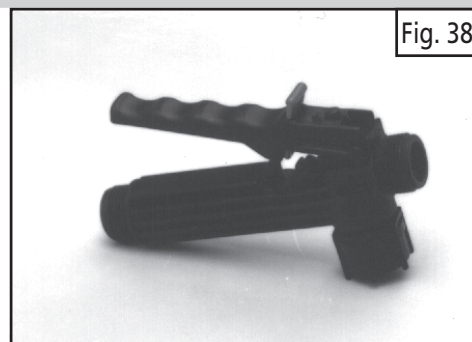

Fig. 38
1) Complete shut-off valve. (See Figure 38)